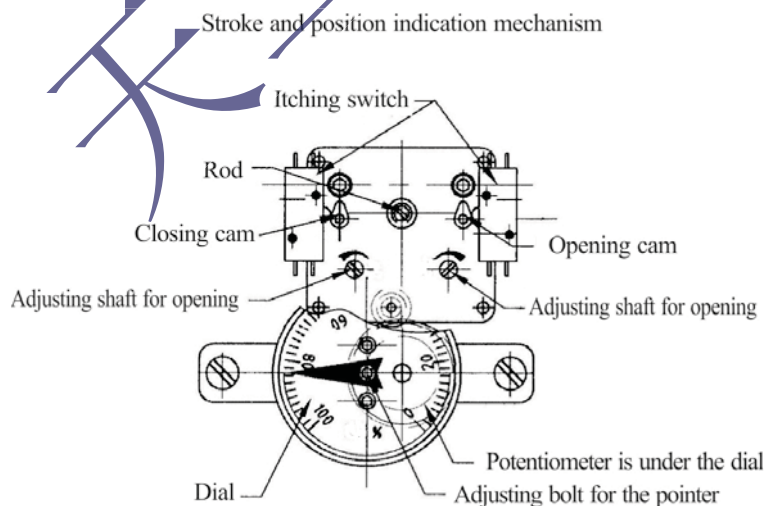

Fig.5
- Before setting first check if the cam is in the position shown in Fig.5 and if the carrier rod has been screwed down.
manual operation, set down carrier rod and turn opening adjustment shaft of counter clockwise to make cam return to the position shown in Fig.5. And then, according to the adjustment amount, go on turning the shaft for more turns clockwise, so as to provide the counter enough adjustment amount. Now turn and lift carrier rod again and go on with item e.